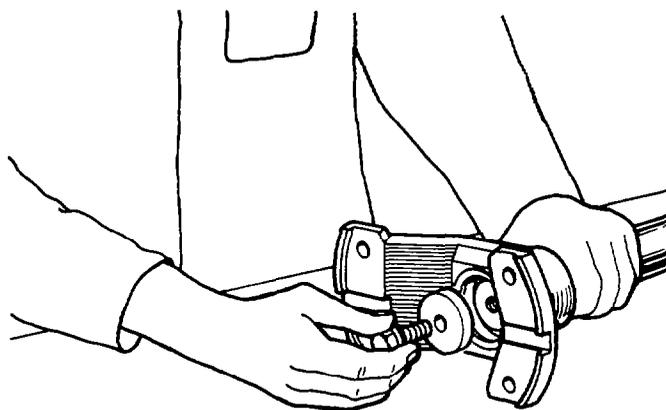

Fig. 370 — Fitting Washer and Centre Bolt
- k. Fit the yoke centre bolt through the sealing washer and thrust washer (see fig. 370). Fit the bolt and washers into position in the yoke and torque the bolt to 169 Nm (125 lb.ft).